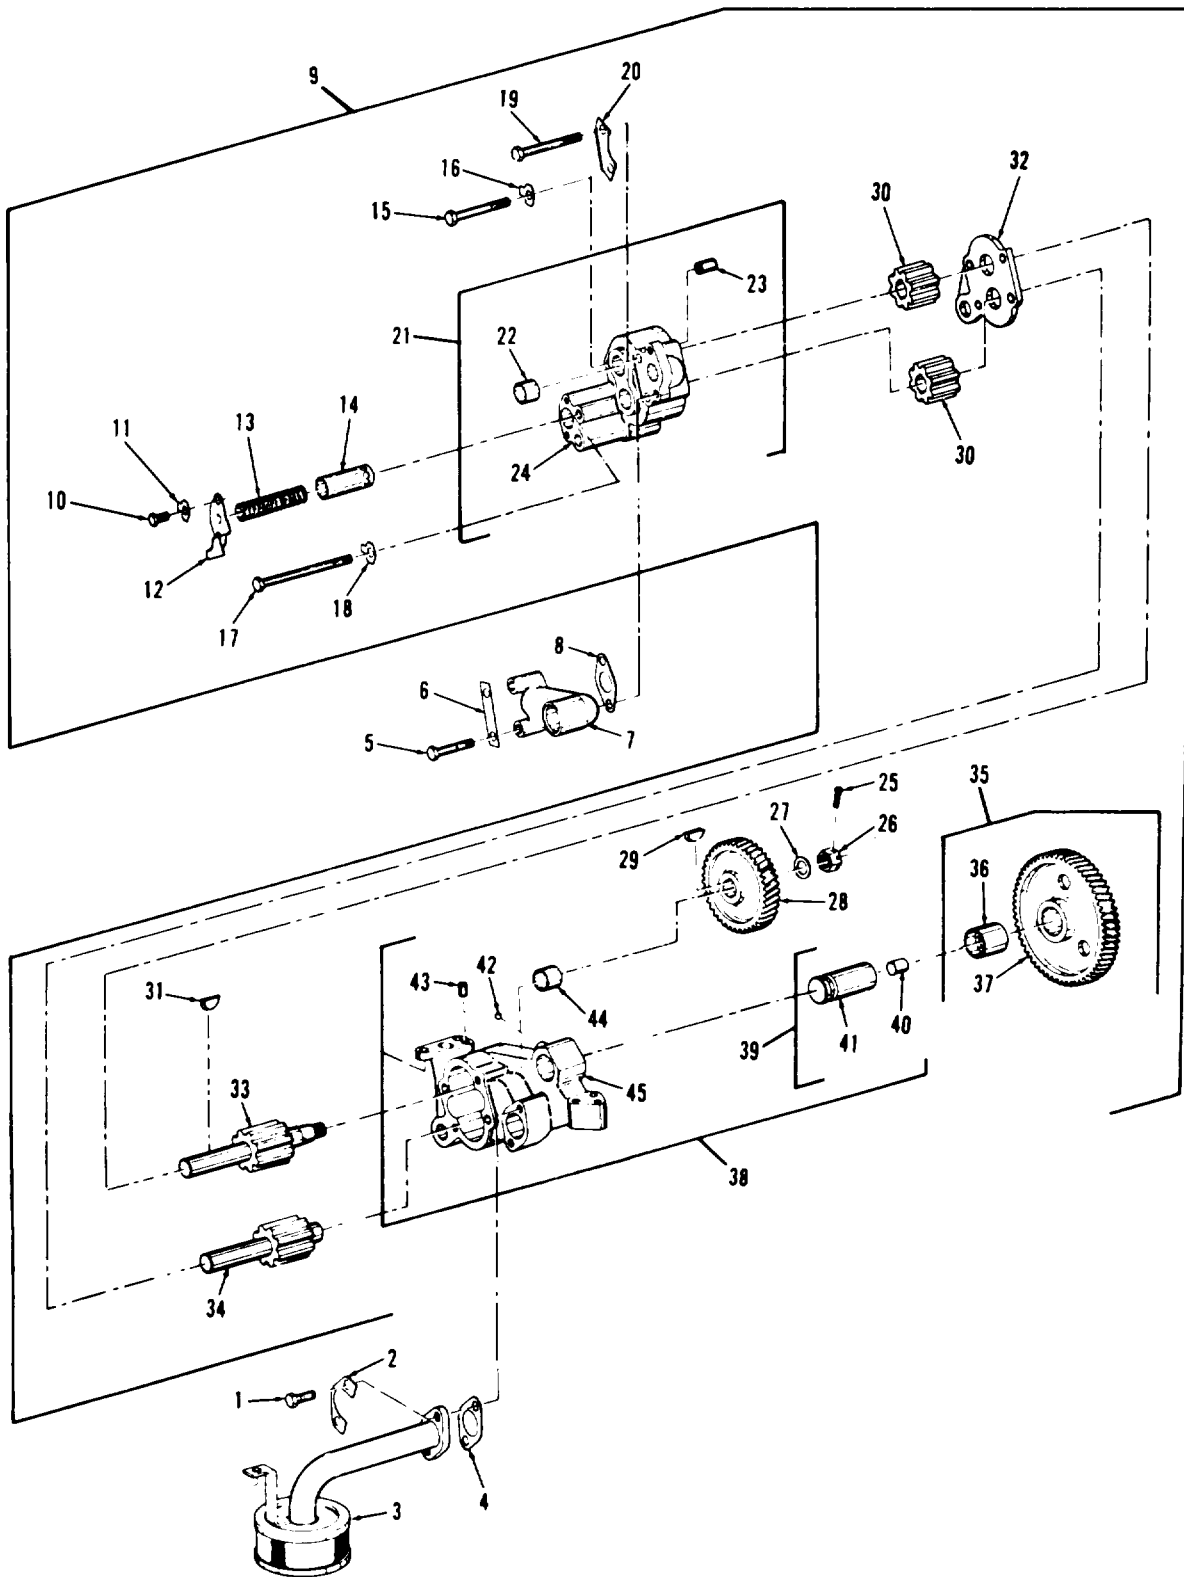

Figure 8-52. Oil pump group, exploded view
Refer to figure 8-52 and disassemble oil pump group in the order of index numbers assigned. Pay particular attention to the following:
- a. Using a suitable puller, remove gears (30, Figure 8-52) from shaft assemblies (33 and 31).
- b. Using a suitable puller, remove gear (28) from shaft (33) and gear (37)
3. Idler gear shaft (34, figure 8-52) diameter.
4. Drive idler gear shaft (41) diameter.
5. Relief valve pressure spring (13) outside diameter.
d. Using a suitable spring compressor, apply a load of 36.6 to 43.0 pounds and compress spring (13) to a length of 3.25 inches. If spring does not compress to a length of 3.25 inches under a load of 36.6
Legend to figure 8-52:
Refer to figure 8-52 and reassemble oil pump group in the reverse order of index numbers assigned. Pay particular attention to the following:
a. Using a suitable arbor press, install bearing (36) flush with face opposite timing mark.
b. Using a suitable arbor press, install bearings (44, figure 8-52). The edges of bearings (44) must be recessed 0.20 inch beneath face of body (45) toward gear (28).
c. The edges of the bearings (22) must be recessed 0.060 inch beneath face of body (24) toward gears (30).
d. Using a suitable puller, install gear (28) on shaft assembly (33). Tighten gear retaining nut (26) to 60 foot-pounds torque, plus amount to align cotter pin (25).